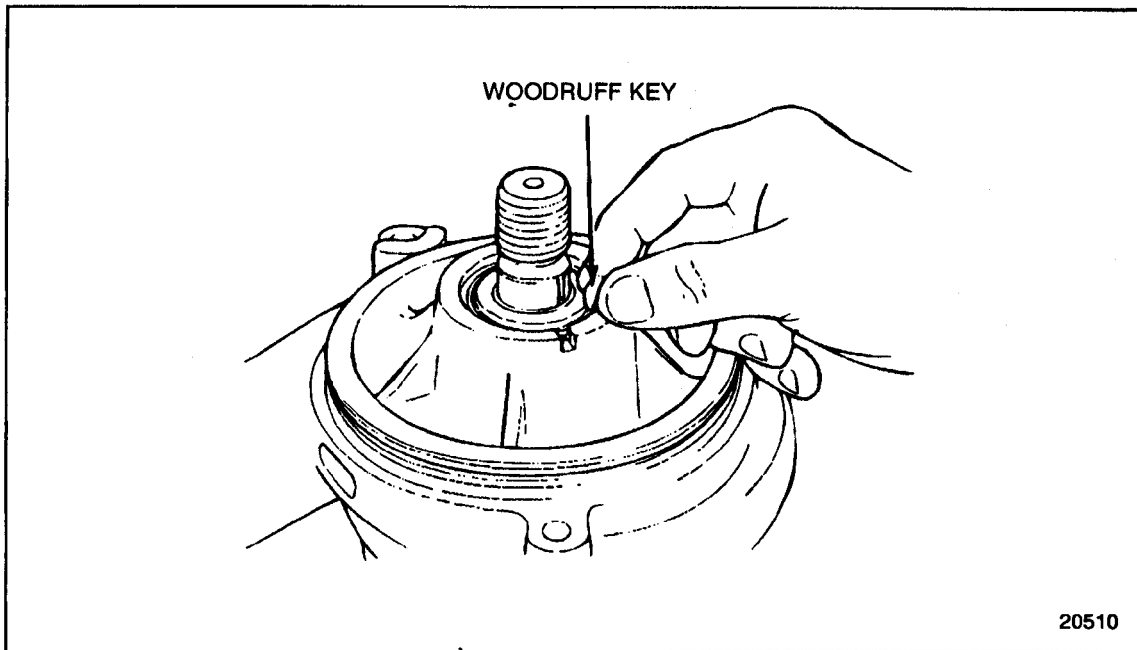

Figure 4-62 Woodruff Key Installation (FM)
24. Install the Woodruff key to its slot in the drive shaft. Tap the key with a brass hammer to seat it squarely in the slot. See Figure 4-62.